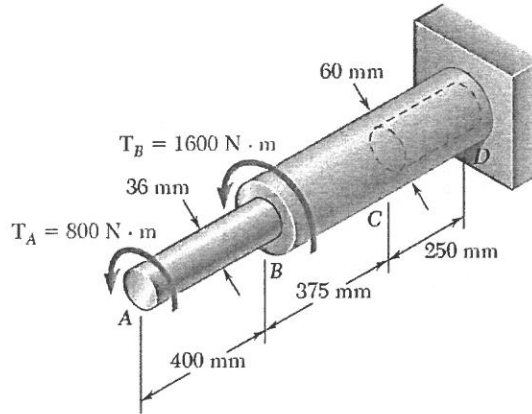

Figure 2(a) Connecting rod
- (a) Figure 2(a) show an aluminum rod AB ( $G = 27 \text{ GPa}$ ) is bonded to the brass rod BD ( $G = 39 \text{ GPa}$ ). Knowing that portion CD of the brass rod is hollow and has an inner diameter of 40 mm, determine the angle of twist of AD.